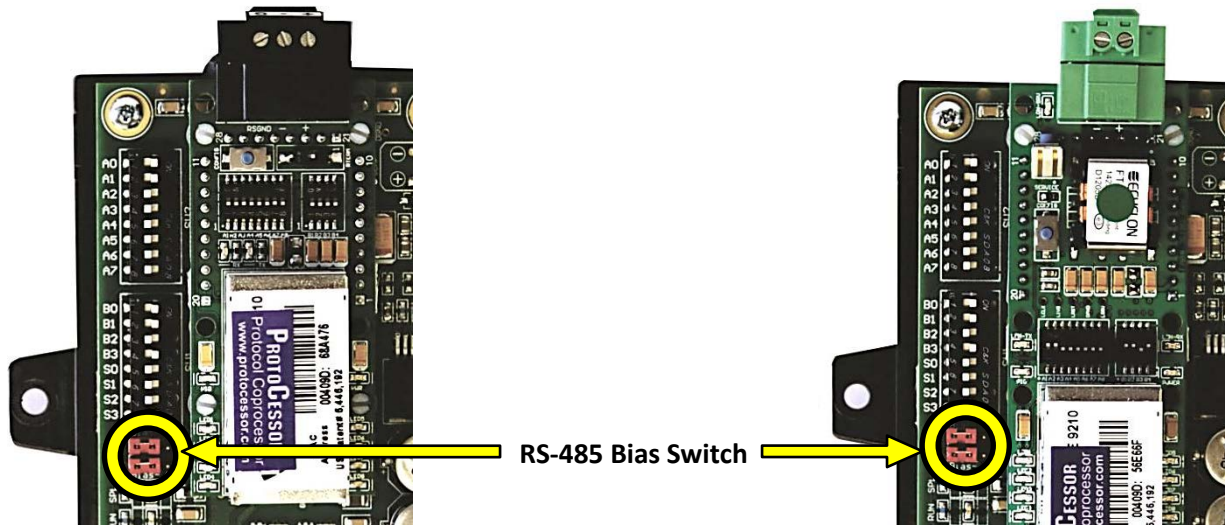

Figure 3-4: Modbus RS-485 Biasing Jumpers on the ProtoNode RER (Left) and ProtoNode LER (Right)
- The OFF position is when the 2 RED biasing jumpers straddle the 4 pins closest to the outside of the board of the ProtoNode. See Figure 3-4.